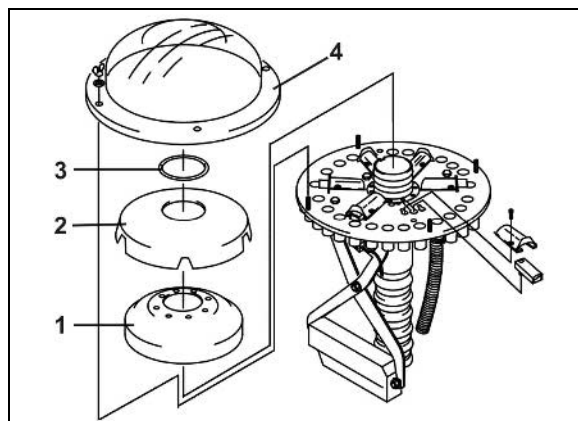

Fig. 145
12. Attach foam rubber insert (Fig. 145/1)
13. Attach distributor inner hood (Fig. 145/2)
14. Attach the ring (Fig. 145/3)
15. Attach distributor outer hood (Fig. 145/4)